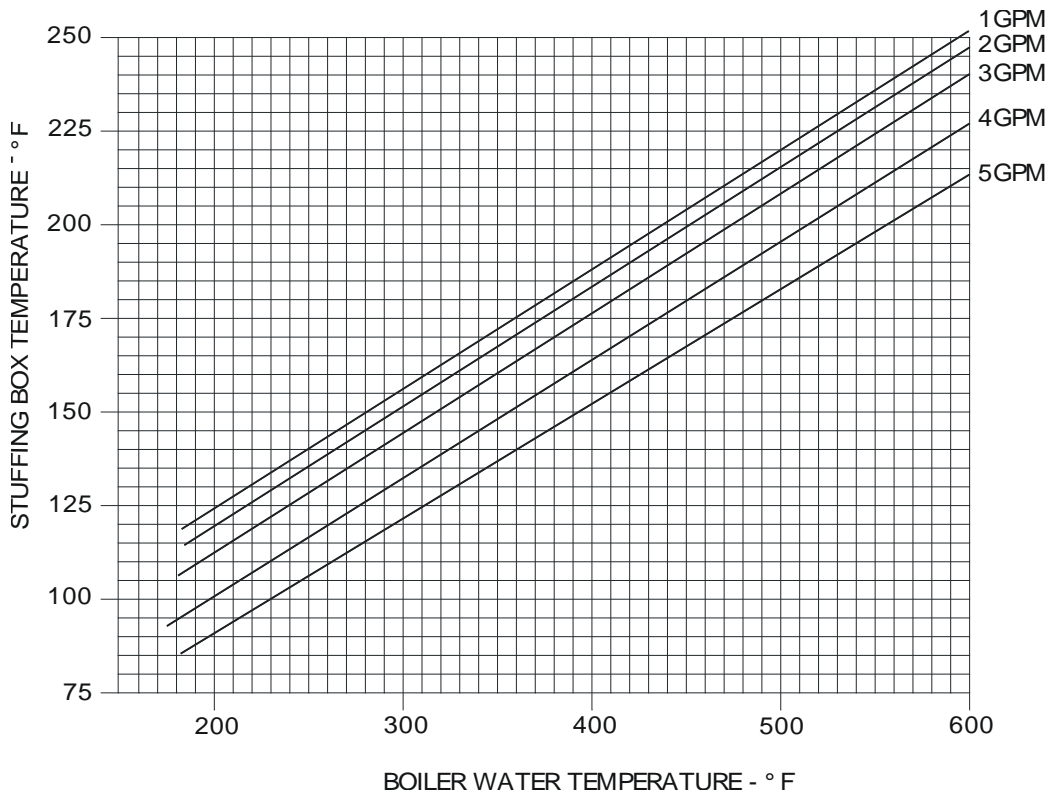

Figure 25. Cooling Water Requirements
- 14.2** Stuffing box cooling has flow rates related to the temperature of the fluid being pumped, in this case water at the saturation temperature of the boiler operating pressure. For installation planning purposes Figure 25 indicates some expected stuffing box cooling data based on cooling water inlet temperature of 70°F.
- 14.4** Referring to Figure 25, a boiler operating at 225 PSI (approx. 400°F saturation temperature) will require up to 3 GPM cooling water at 70°F in order to limit the outlet temperature to 175°F.